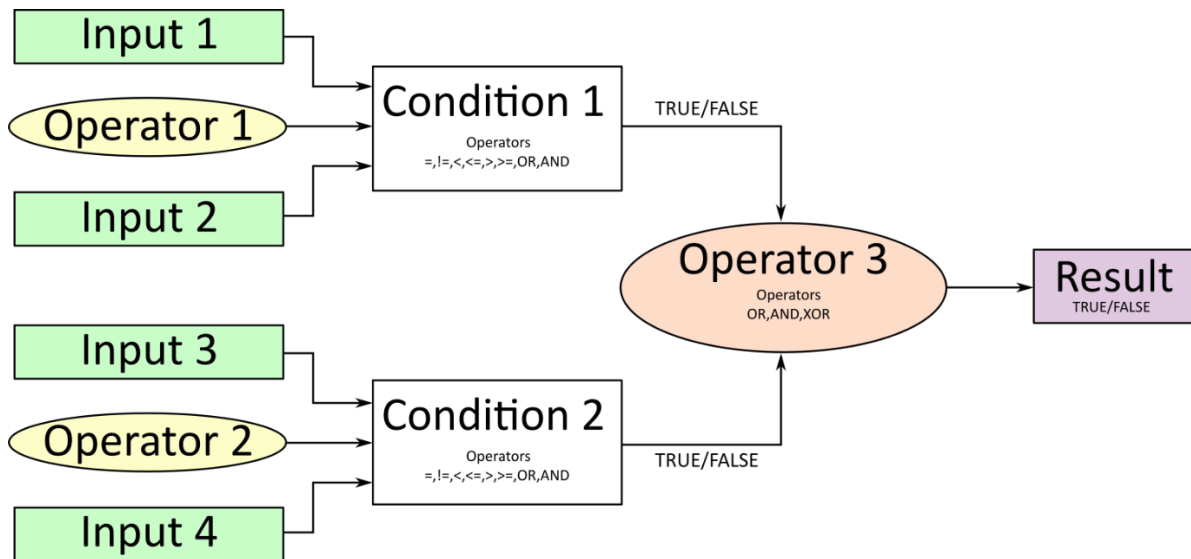

Figure 5: Conditional Block Diagram
The Conditional Block compares up to four different input sources with different logical or relational operators. The result of each block can therefore only be true (1) or false (0). Figure 5 demonstrates the connections between all parameters.